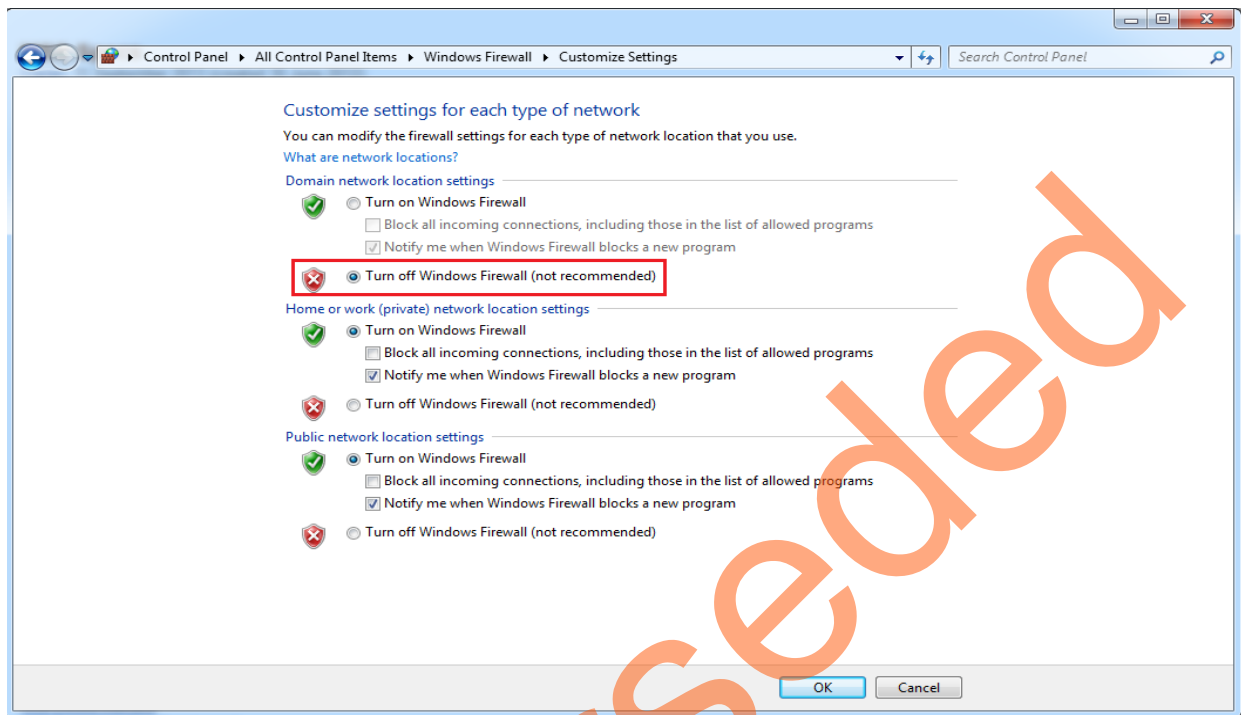

Figure 22 • Windows Firewall Settings
2. Navigate to **Control Panel > Windows Firewall** and click **Turn Windows Firewall On or Off**. Select **Turn off Windows Firewall** under Domain network location settings as shown in Figure 22.